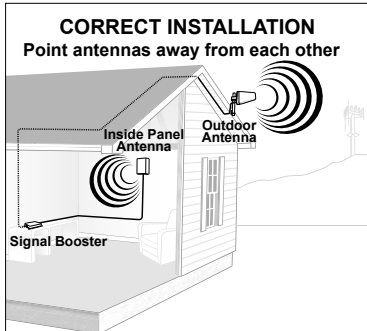

Figure 1
See Figures 1 & 2 on page 10.
1. Never point the front of a Directional Outside Antenna toward the Inside Antenna. Refer to Figures 1 & 2 on page 10.
The Outside Antenna needs to be pointed at the cell tower with its back facing towards the Inside Antenna (refer to Figures 1 & 2 on page 10). Without proper orientation of the antennas, you will not be able to get the maximum gain from the Signal Booster.